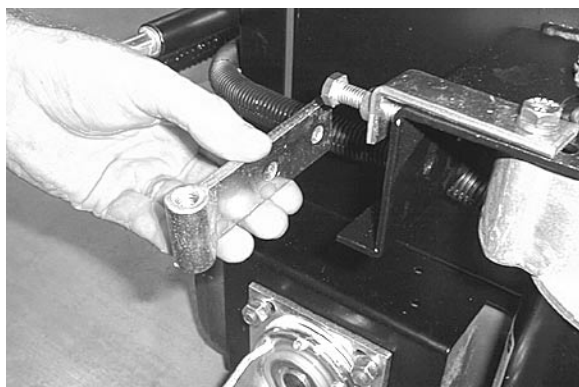

Fig. 5
4. Remove the squeegee mount bracket, two 1/2" wrenches required (Figure 5).